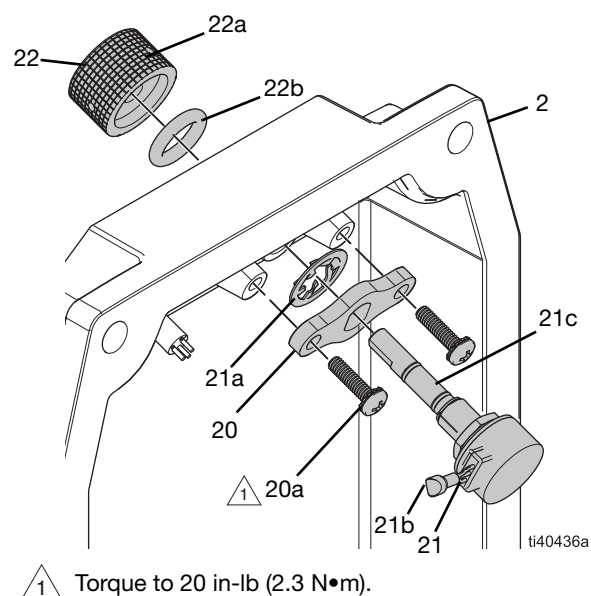

Fig. 19: Control Knob Assembly
2. Prepare the new encoder (21) by verifying that only one nut is installed on the thread of the encoder, and that the nut is screwed down, making contact with the encoder body. If a second nut is present, discard it.
3. Insert the encoder (21) into the control knob mounting bracket (20).
4. Install the push-nut (21a) onto the encoder (21), making contact with the mounting bracket (20).
5. Apply anti-sieze lubricant to the shaft of the encoder (21).
6. Insert the encoder (21) assembly into the control knob hole on the control cover (2).
- NOTE:** Ensure that the encoder wire (21b) is correctly oriented to easily connect the wire to the control board. See Fig. 19.
7. Insert the fasteners (20a) through the control knob mounting bracket (20).
9. Install the seal (22b) on the control knob (22).
10. Install the control knob (22) onto the shaft (21c) on the control cover (2). Ensure the mark on the control knob is aligned with the off (0) position on the control label (40).
11. Securely tighten the control knob fasteners (22a). Ensure the control knob (22) turns properly.